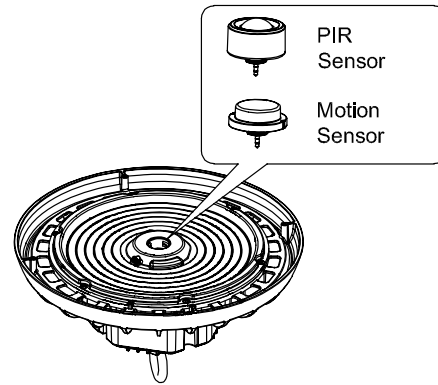

FIGURE 13
2. Twist-lock the DC sensor to the base and use a remote control accessory (sold separately) to adjust the working mode per preference (Figure 13).